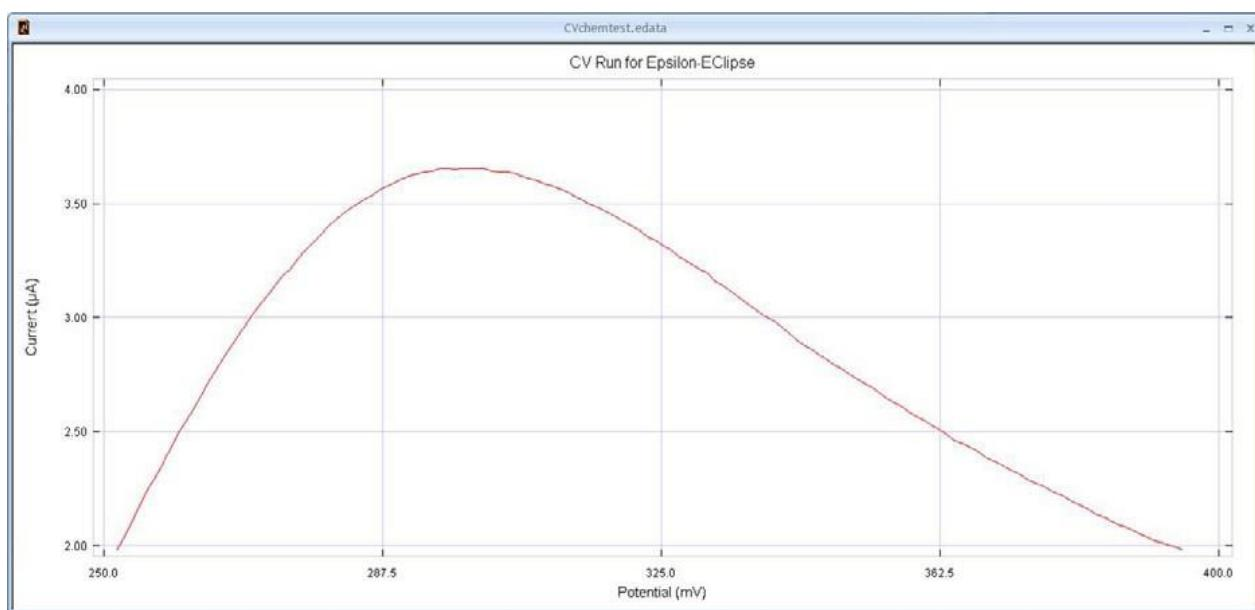
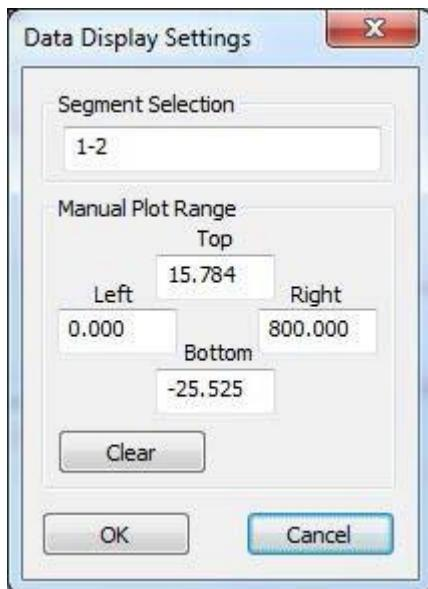

Figure 4 - Enlarged section of the Cyclic Voltammetry graph
Figure 5 - Data display settings dialog box
6. A specific area of the graphic can be enlarged by using the mouse cursor (and the left mouse button) to define the area (Figure 4), by using the mouse scroll to zoom in and out, or by entering the x and y values in the Data Display Settings dialog box in the Graph menu (Figure 5). The original graph can be restored using Zoom Full Range in the Graph menu.